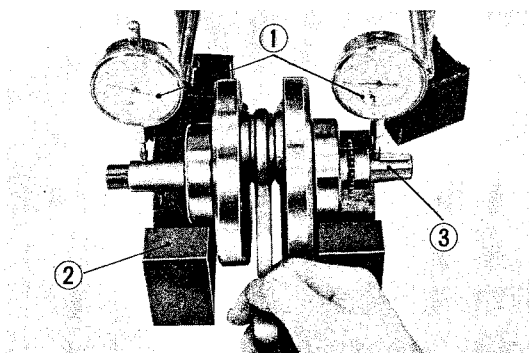

Fig. 84 Crankshaft runout measurement
- 1) Measure the runout of the crankshaft. Support the crankshaft at bearing with V block, and check the amount of runout using a dial gauge. (Fig. 84)